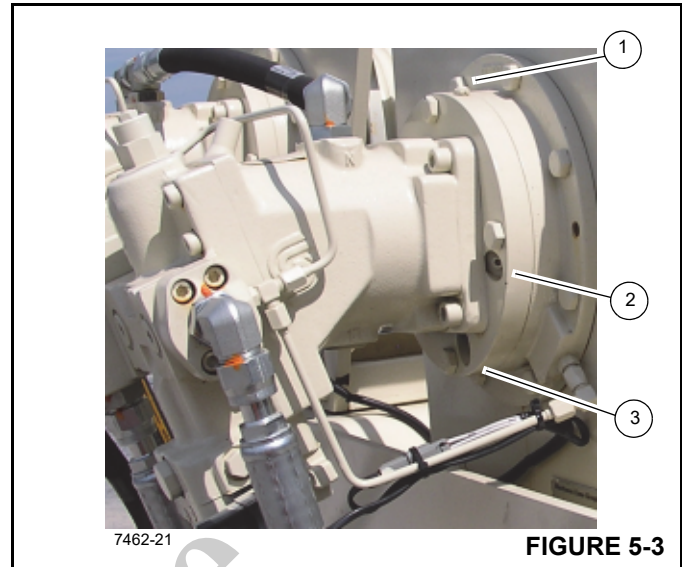

FIGURE 5-3
To check the hoist brake oil, remove the inspection plug (2, Figure 5-3) and visually inspect the oil level. The oil should be visible within the bottom of the inspection hole. If more oil is needed, add through the vent/fill (1) plug hole until oil is at the bottom level of the inspection hole.
1. Remove the drain plug (3, Figure 5-3), inspection plug (2) and vent plug (1).
3. Reinstall drain plug (3) and add oil at the brake oil vent hole (1) until oil is at the bottom level of the inspection hole (2). See Table 5-2. The hoist brake fill capacity is 0.23 liter (.25 quart).
4. Install the inspection plug (2) and the oil vent and fill plug (1).